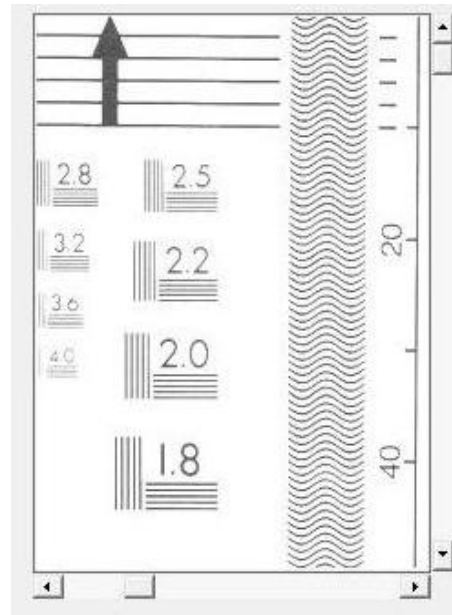

Figure 5-261
- 4) Use [Zoom] to enlarge the leading edge of the image and ensure that the position of the leading edge is correct. (Refer to Figure 5-261)